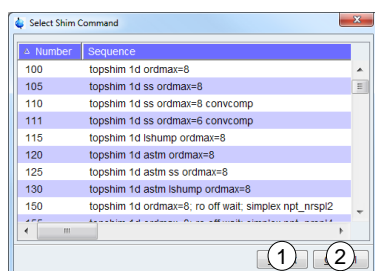

Figure 5-70: Acquisition tab – Select Shim Command dialog
Select a Shim Command number from the list (10) to select a shim sequence to be applied for the experiment. Click **Select Shim Command** (10) to open Select Shim Command dialog (Figure 5-70).